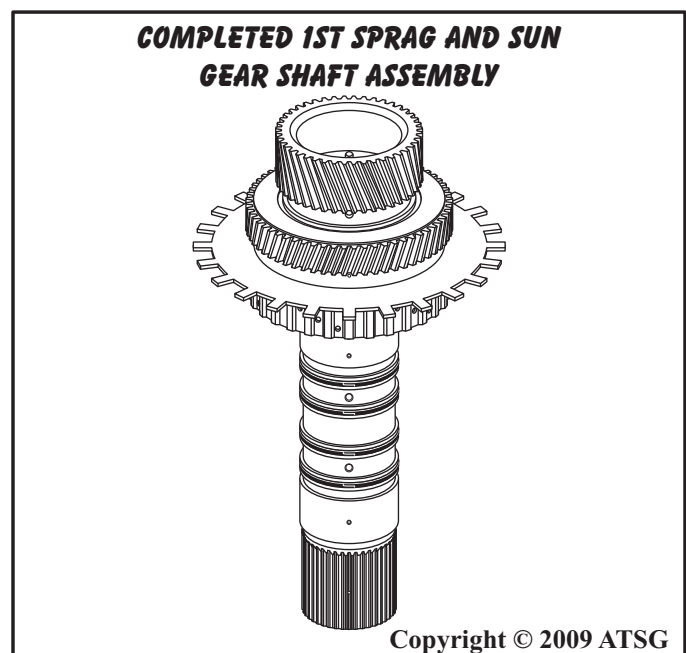

Figure 126
20. Set the completed 1st sprag and sun gear shaft assembly aside for the final assembly process, as shown in Figure 126.